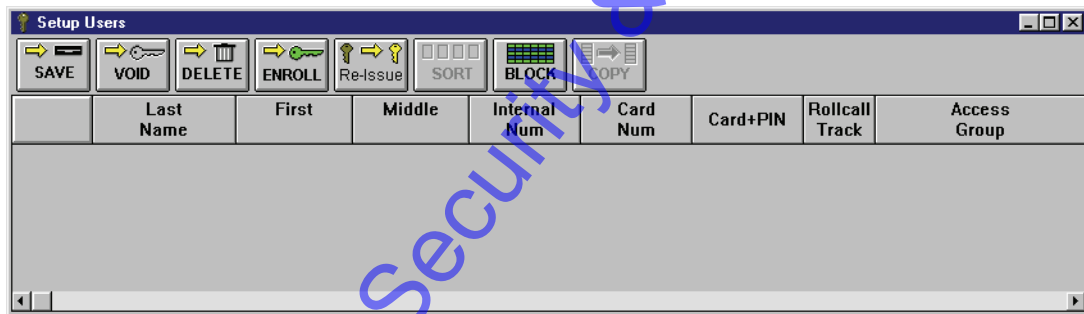

Figure 4-9: Setup Users Spreadsheet Window
- To enroll cards by presenting to a reader, click on the Setup ⇒ Users pull-down menu or click on the  tool bar button. These two icons  are added to the tool bar and the Setup Users spreadsheet window appears (see Figure 4-9). If the Setup Users spreadsheet window is not visible, click on the  tool bar button.